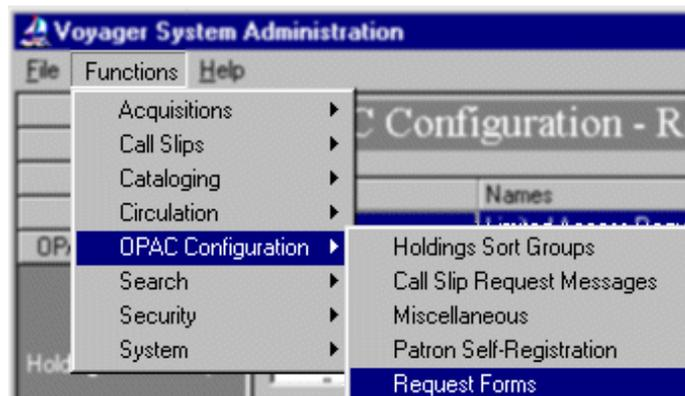

Figure 4-8. Path to OPAC request forms
1. From the Voyager System Administration **Functions** menu, highlight **OPAC Configuration**, then click **Request Forms** (see Figure 4-8 on page 4-10).